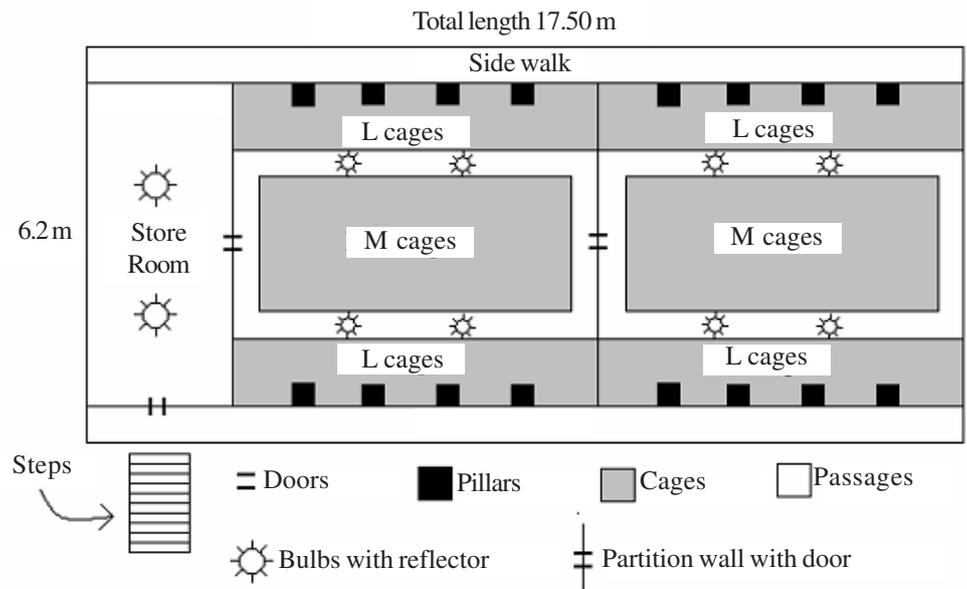

Fig. 1.12: Floor diagram of CLH
- Steps have to be constructed for persons to carry birds, feed, eggs etc. from and to the CLH (see Fig 1.12).
- Door will be provided to the store-room directly on the side-wall, but at the level of passages. From the store room, entry is provided into the CLH; door is also provided in the partition wall between CLHs (see Fig 1.12).
Floor diagram of the CLH is different from that of a broiler house because of passages and cages being alternatively located inside the house. Look at the figure below (Fig. 1.12) for the details: